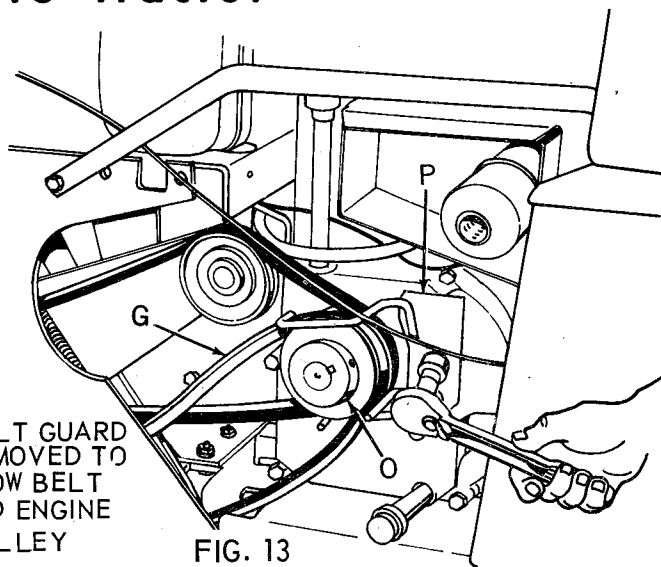

FIG. 13
6. Refer to Fig. 13. Thread mower drive belt (G) up through tractor frame to engine pulley (O). **NOTE:** Belt guard can be pulled out far enough so that belt will pass between guard and engine pulley. Replace belt guide (P) on engine around pulley. Make sure bolt or bolts are replaced and tightened, depending on tractor model. **IMPORTANT:** There must be 1/8" clearance between fingers on belt guide and drive belts when clutches are engaged (belts are tight). **NOTE:** Belt guard is removed to show belt and engine pulley.